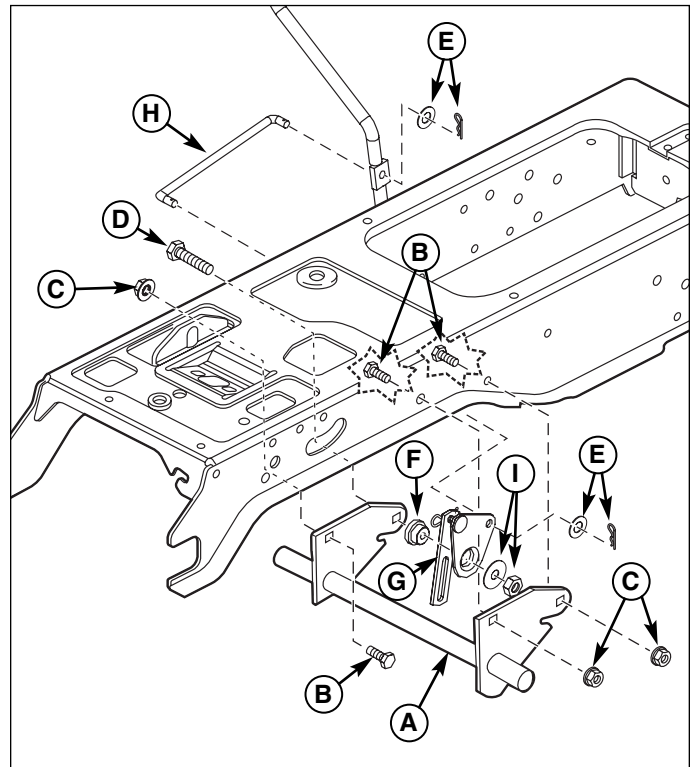

Figure 7. Install Lift Shaft Assembly & Rod.
3. Mount the lift shaft assembly (A, Figure 7) to the frame using three 5/16-18 x 1 capscrews (B) and 5/16-18 flange nuts (C) as shown.
4. Install 5/16-18 x 1-1/2 capscrew (D), spacer (F), bell crank (G), washer & 5/16-18 nut (I).
5. Install rod (H), and hair pin & washer (E) if removed.